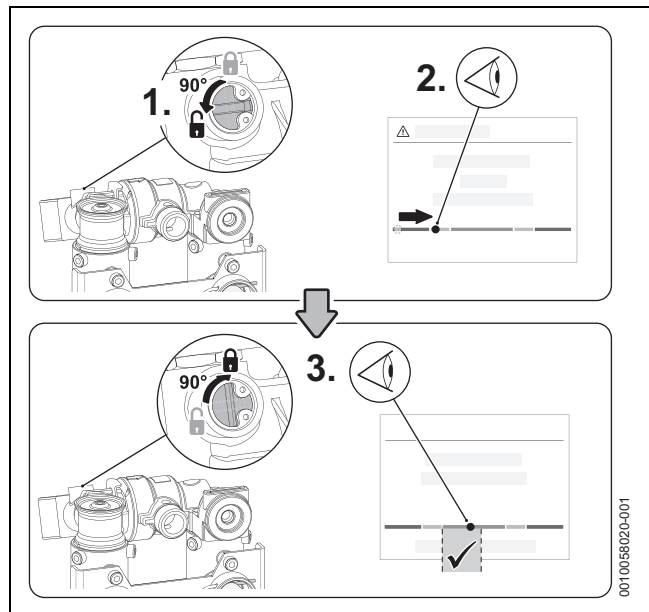

Fig. 75 Filling the system for the first time
- Close the manual override screw 90° gently to stop the filling process when the pressure indicator is within the area of the green zone shown in figure 75.